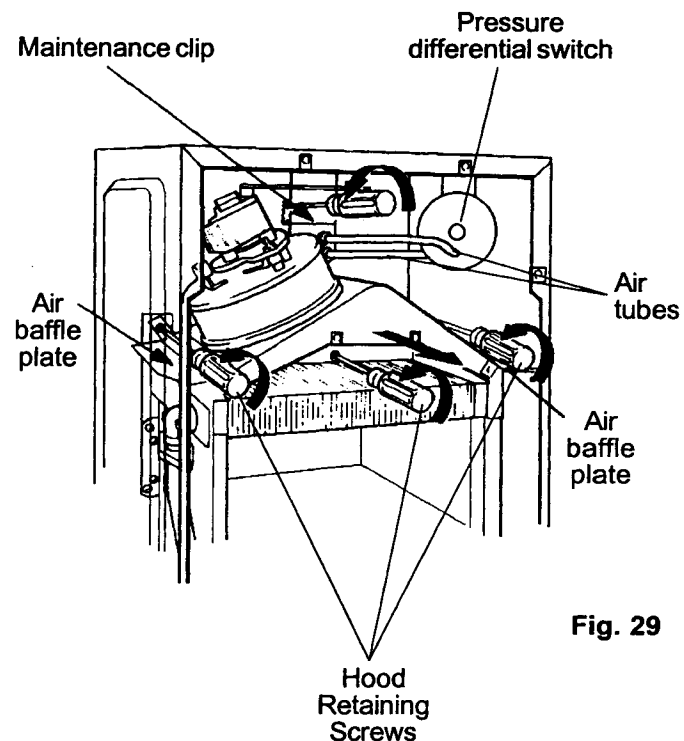

Fig. 29
- 8.9.2** Loosen maintenance clip securing screws (see fig. 29) and slide upwards to clear joint.
- 8.9.4** Remove 3 flue hood retaining screws (see fig. 29)
Refer to Fig. 29